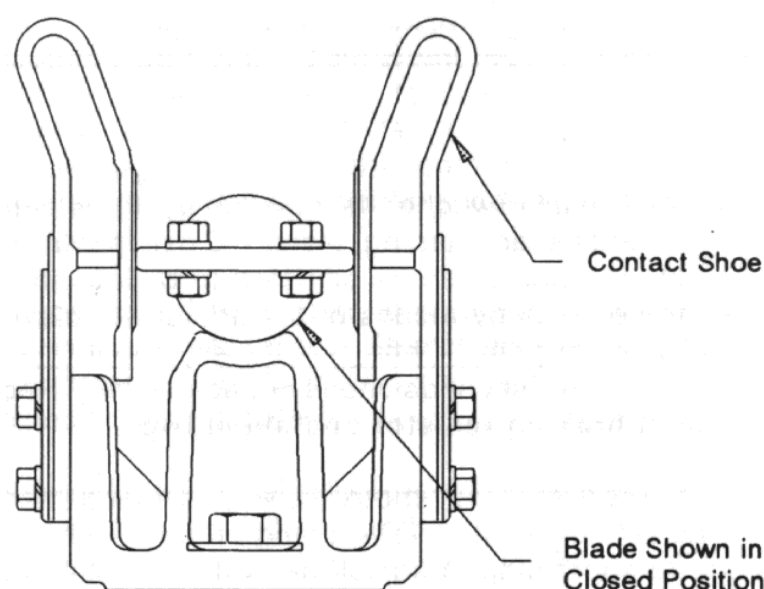

Figure 42 -- Blade Jaw Adjustment 72-265-035-441
14. In the closed position, check that blade contact is horizontal as shown in Figure 42 and that the blade rests on the closed position blade stop.